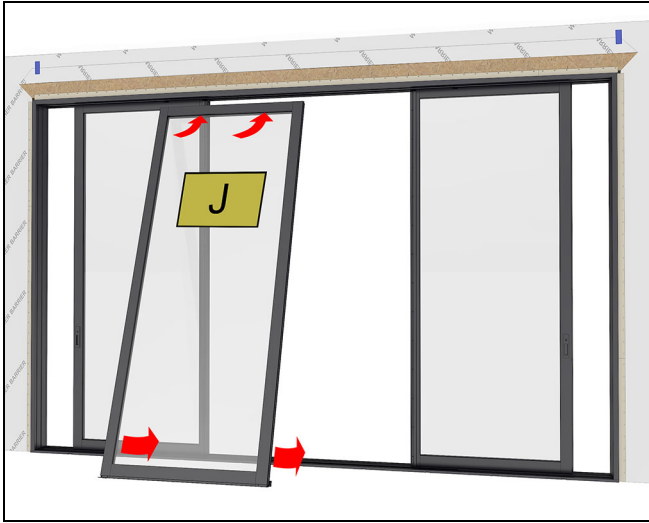
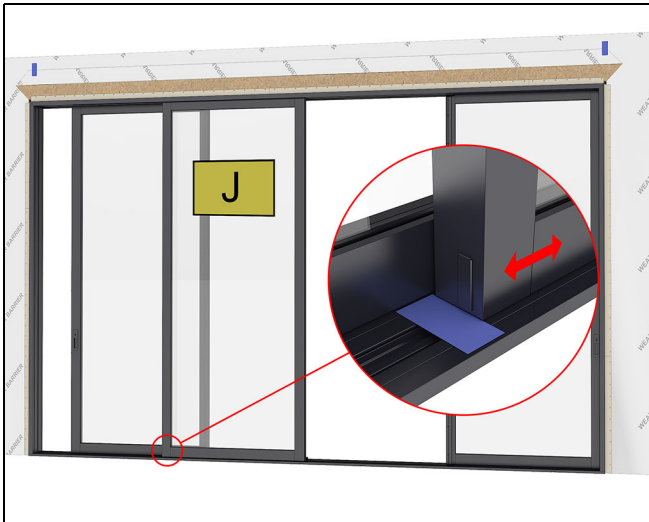

Figure 165 XOOX
Figure 166
8. Install the (J) stationary panel. Line up the left outside edge of the panel with the left mark made on the sill earlier in step 3 on page 47. See Figure 165 and Figure 166